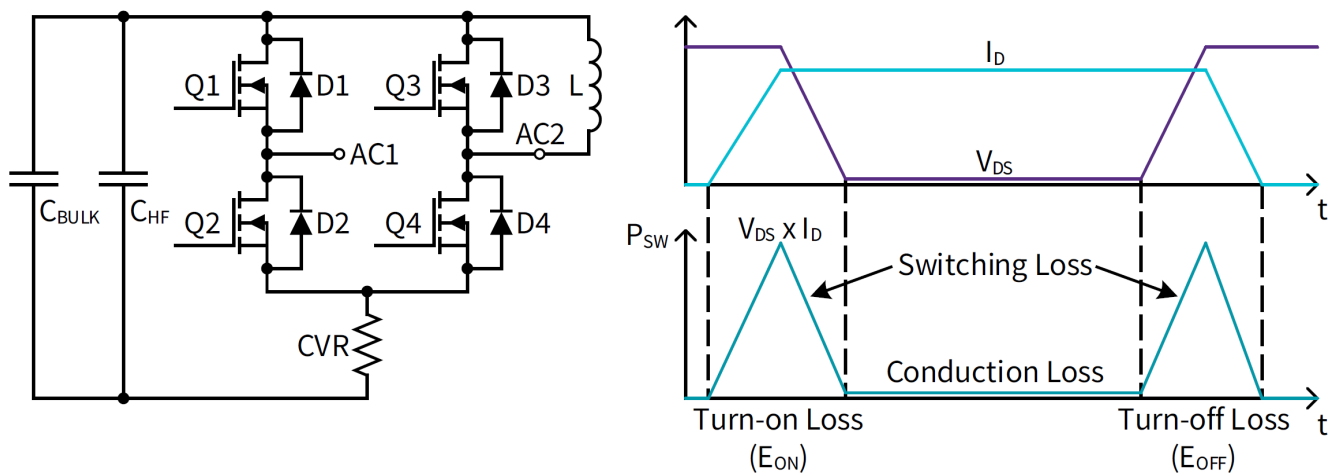
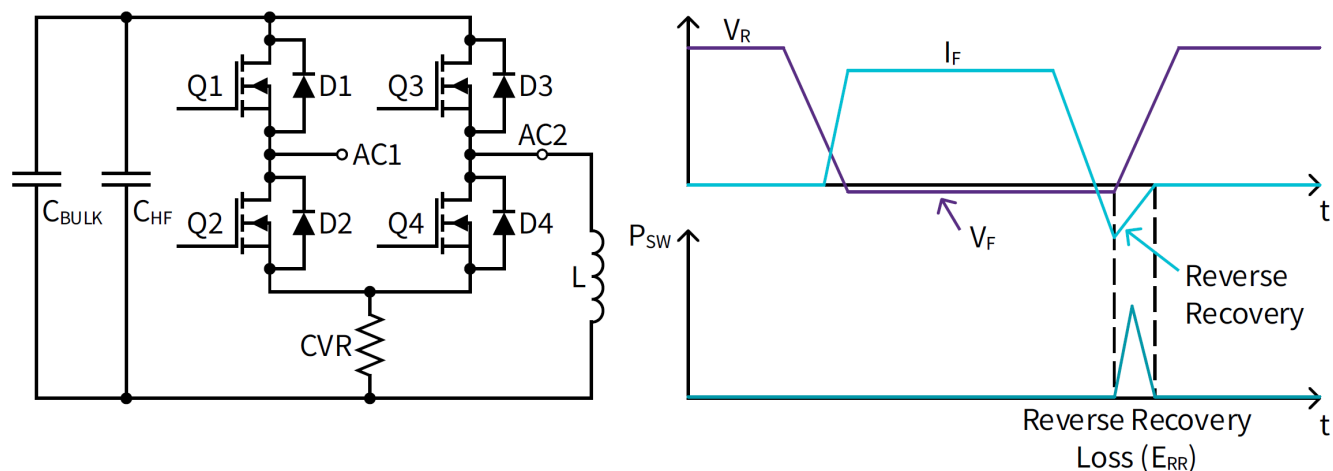

Figure 8: CIL test fixture used to measure the switching loss of MOSFET Q4
Figure 9: CIL test fixture used to measure the switching loss of body diode D4
For full-bridge modules, the test fixtures to measure both events are given below in Figure 8 and Figure 9, respectively, for the “AC2” phase leg. Phase leg “AC1” is inactive in this example and is configured to remain off during testing to avoid affecting the measurements of the active switch positions. Q3 and Q4 represent the selected switch positions of the Wolfspeed full-bridge power module. Likewise, D3 and D4 represent the intrinsic body diodes of each switch position. For both tests, film capacitors (C_{BULK}) are used for bulk energy storage to provide the needed energy transfer to the inductor (L) for the switching event, while high-frequency capacitors (C_{HF}) are used to provide a low-inductance switching loop. For MOSFET switching measurements in Figure 8, the inductor is connected across the upper switch position of the phase leg from the “AC2” midpoint to the positive bus rail while Q3 is held off and Q4 is pulsed; for body diode switching measurements in Figure 9, the inductor is connected across the lower switch position of the phase leg to the negative bus rail while Q3 is pulsed and Q4 is held off.